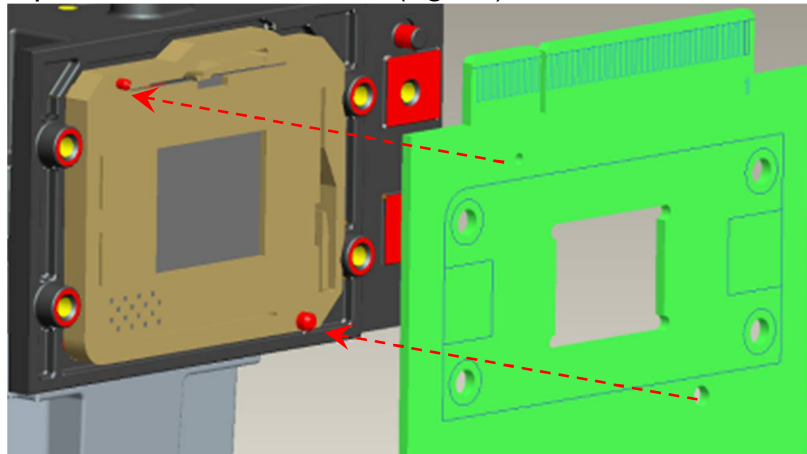

Fig. 5-4
C. Assemble Chip B/D & BACKER RUBBER (Fig. 5-4)